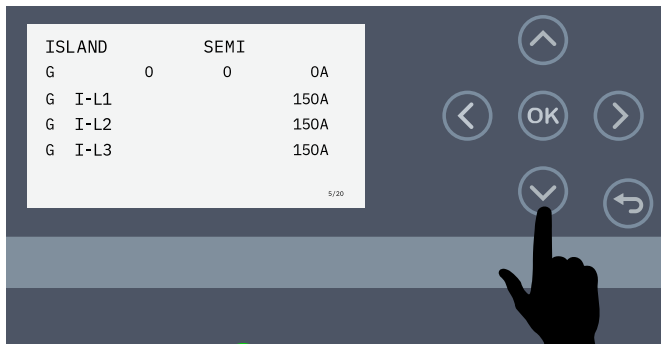

Figure 59. View Menu (Current)
10. Press the **Down Arrow button** (Figure 59) to navigate to the View menu page that displays **current (A)** and verify it reads the anticipated amount of current with respect to the load. The current readings will indicate zero amps until a load is applied.